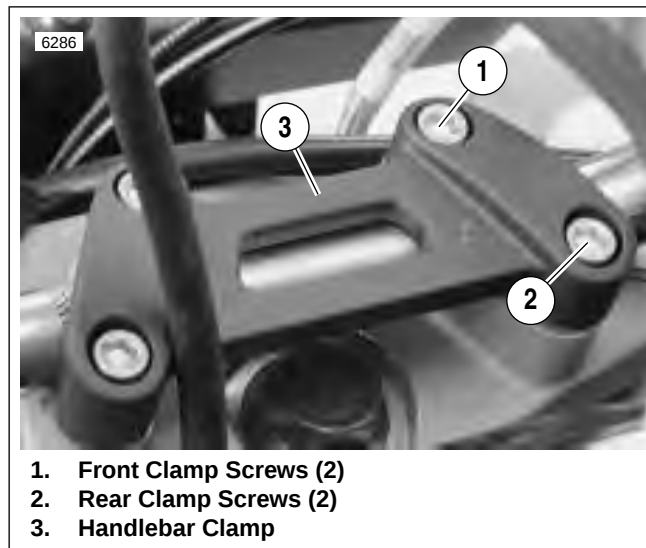
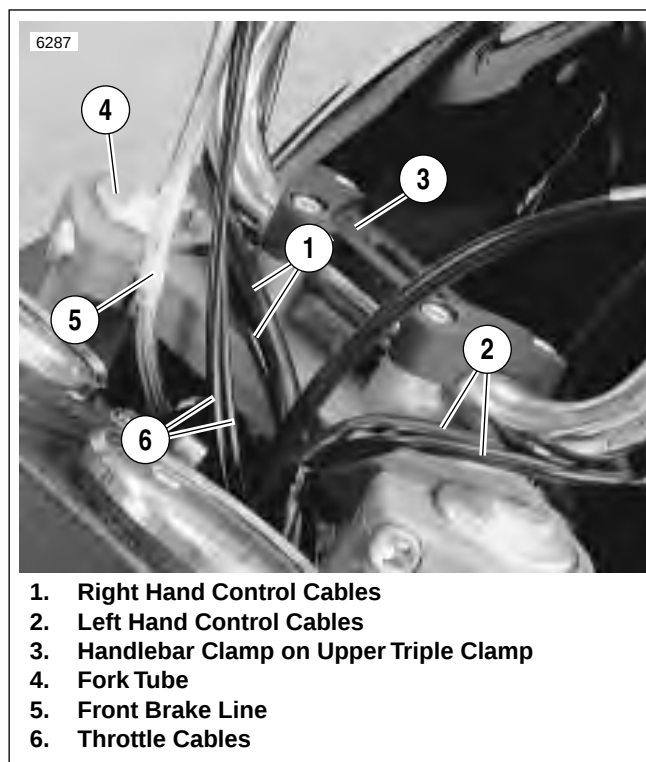

Figure 2-86. Handlebar Clamp
Figure 2-87. Routing Hand Control Wires
5. See Figure 2-86. Remove four screws (1, 2) from handlebar clamp (3).
3. See Figure 2-87. Install handlebar clamp.
- a. Route right hand control wires (1) under handlebar and in front of fork tube (4) and handlebar clamp (3).
- b. Route left hand control wires (2) under handlebar and in front of fork tube (4) and handlebar clamp (3).
- c. See Figure 2-86. Tighten both front screws (1) to 10-12 ft-lbs (14-16 Nm).
- d. Then tighten both rear screws (2) 10-12 ft-lbs (14-16 Nm).